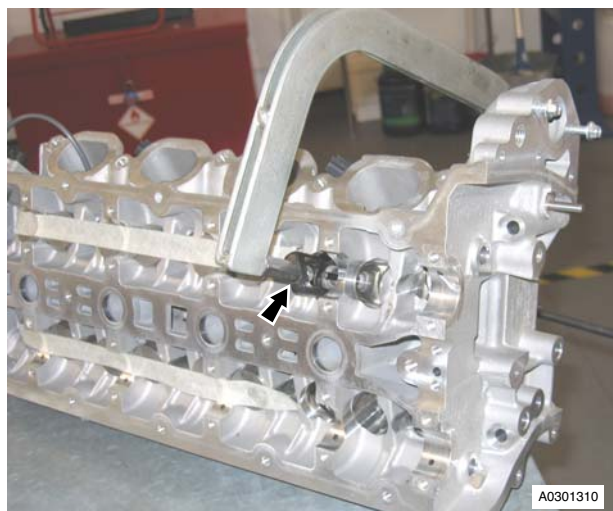

Figure 1
- Position valve spring compressor, compress valve springs (see Figure 1).